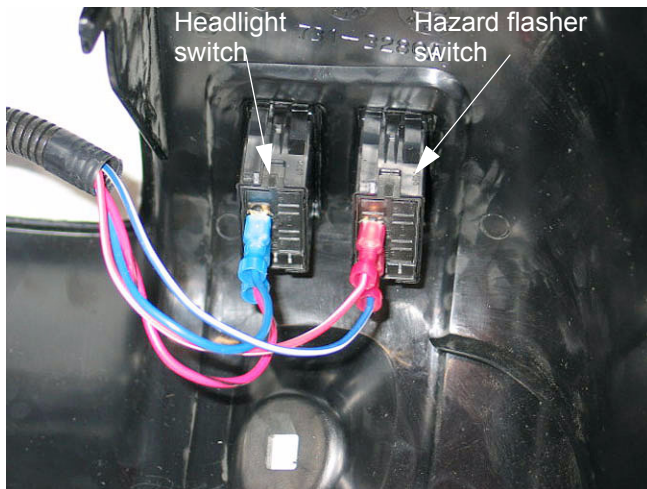

Figure 2.9
- 2.9. The hazard flasher draws constant hot through the red wire with white trace. See Figure 2.9.